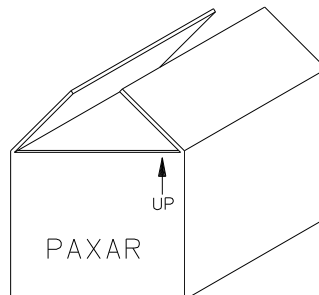

Figure 3 - Shipping Box.
Open the box from top by removing the two (2) banding straps and cutting the tape seam on top of the printer. (See Figure 3).